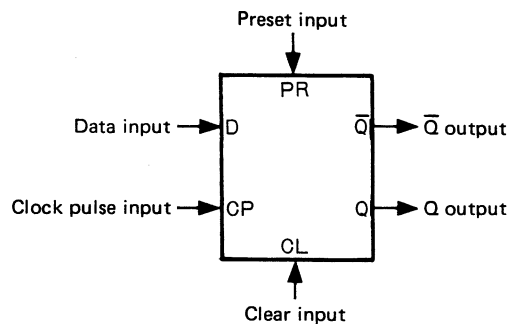

Fig. 14
Each IC is CMOS TC4013BP which is composed of the D-type flip-flop with two independent circuits as shown in Fig. 14. The level of the input applied to the data (D) input is transmitted to the Q and \bar{Q} outputs at the rise time of the clock pulse (CP).